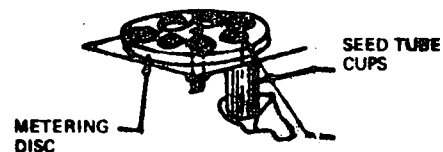

Fig. 2
*With horizontal dispenser wheel (Fig. 2).*